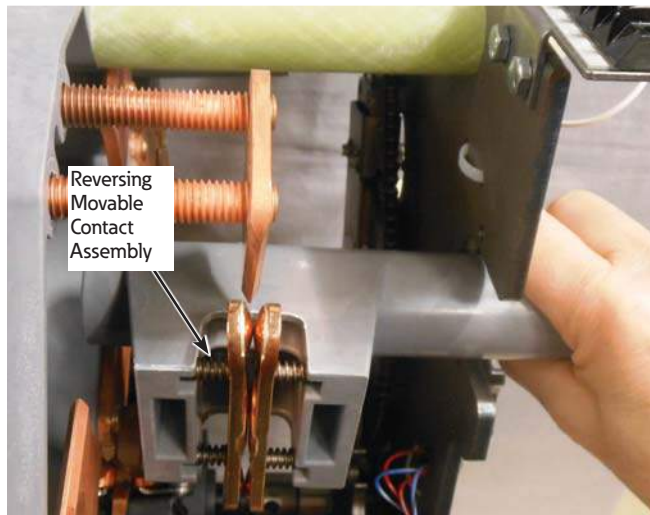

Figure 12. Rotating the reversing movable contact
12. Rotate the reversing movable contact counter clockwise until the movable contact assembly disengages from the reversing neutral stationary contact and remove it from the tap-changer. See Figure 12.